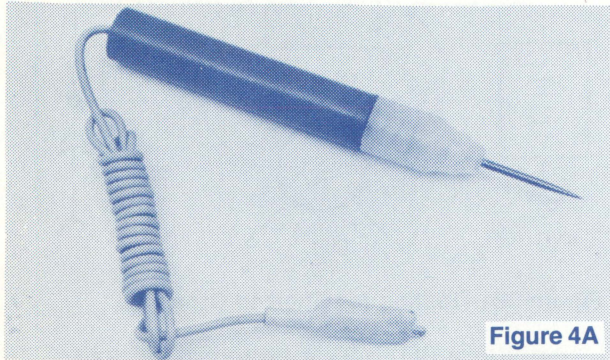

Figure 4A
1. **Checking Circuit Continuity.** Remember, the powered test light glows when a complete circuit is made, in other words, when the circuit shows continuity. To check for continuity, connect a test lead to each end of the circuit—or segment of a circuit—where current flow is suspected of being broken. (Figure 4A). If the light remains OFF, the break is between the two test leads.